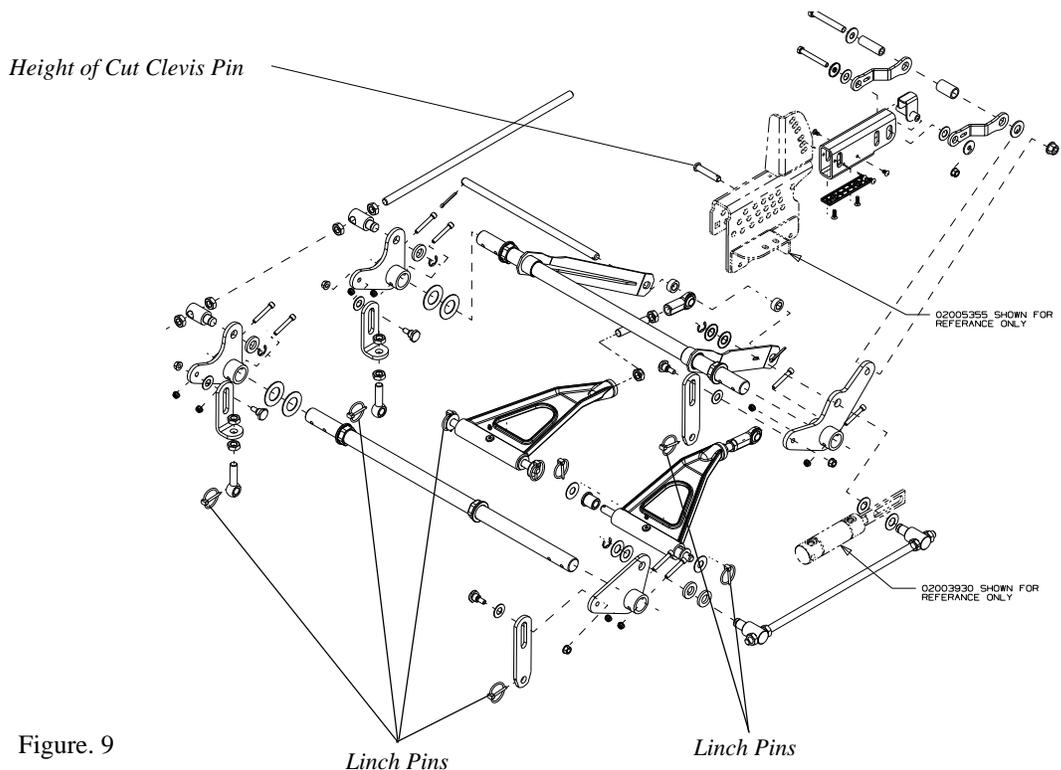

Figure. 9
- e. Remove six linchpins (See Fig. 9) (4) from the deck and (2) from the front of the mower. Remove the linchpins on the left and right rear side of the cutter deck (2); remove the linchpins on the left and right front side of the cutter deck (2); and remove the linchpins on the front of the mower (2).